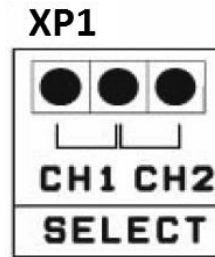

Figure 6 – Connector “XP1”
2.3.2.3 The Product has a manual select of active channel. It is carried out by setting jumper on connector “XP1”, see Figure 6.